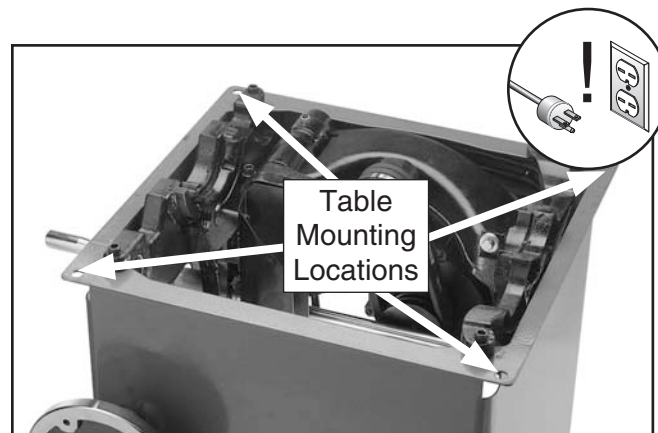

Figure 111. Table mounting bolt holes (table top removed for clarity).
7. To adjust the table, loosen the four bolts in the table mounting locations (see **Figure 111**) and lightly tap the table in the direction needed to square the table to the blade. Repeat **Steps 3-6** until the blade and miter slot are parallel. Do not forget to tighten the table mounting bolts when finished.
2. Loosen the four table mounting bolts (**Page 62, Figure 111**) and adjust the table until the blade does not contact the insert. Tighten all the mounting bolts.